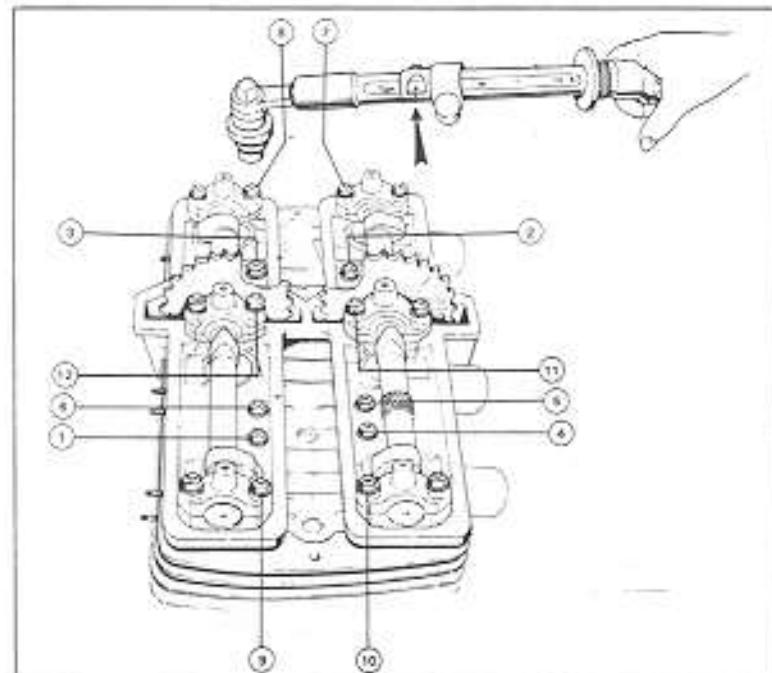

Fig. 5
- If the nuts are only checked for tightness, proceed as follows: Slightly loosen each nut and then tighten it to a max. torque figure of 4.0 mkg, following the sequence shown in figure 5. Retighten the nuts a couple of times using the same torque setting, in the same order.
- If the nuts are installed following cylinder head replacement, they should be tightened progressively, according to the sequence shown in figure 5. Tighten the nuts in three stages (2 mkg - 3 mkg and finally 4 mkg).